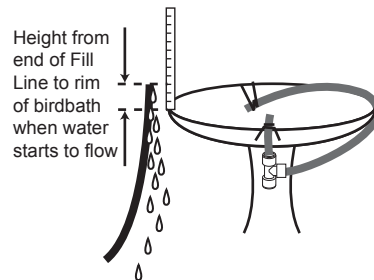

Figure 9
12) Once the Float Valve shuts off, **slowly** lower the end of the Fill Line until water begins to flow out the end. When that occurs, stop and measure the height from the end of Fill Line to the rim of the birdbath (see Figure 9). Record the measurement.